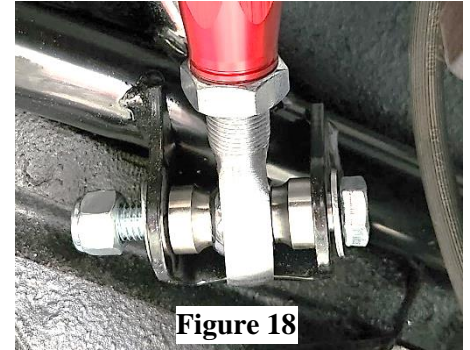

Figure 18
- With one SG12-88 spacer on each side of the red anodized upper trailing arms, install the upper trailing arm into the inner mounting tabs at the front of the crossmember. (**Figure 18**) Secure using 1/2"x 3.25" hardware with two washers and one nyloc nut per connection. Torque to 50 lb. ft.